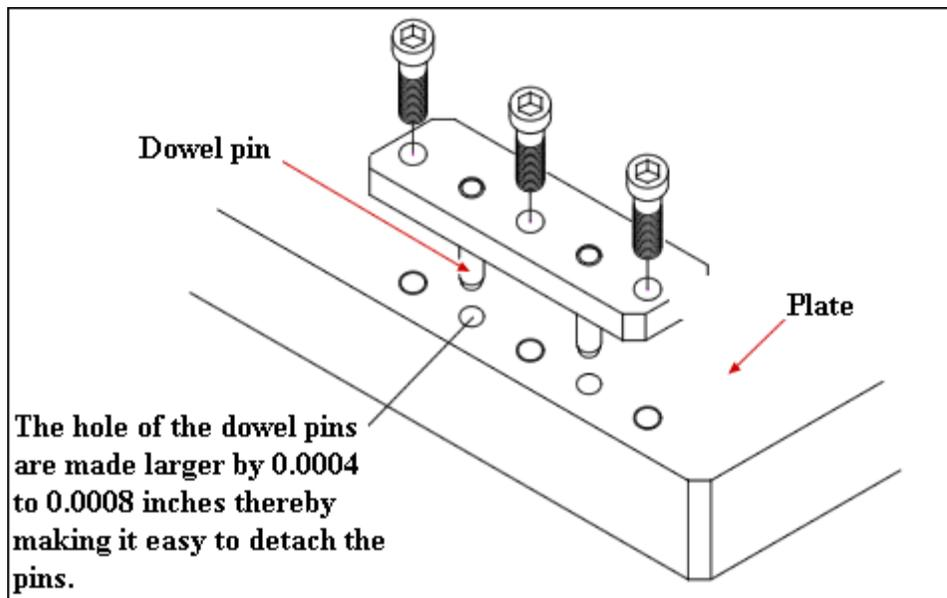

Figure 10. Proper use of dowel pins to position parts and resist shear forces.
**Fasteners have only ONE intended function: to clamp parts together.** Fasteners are not meant to position parts relative to one another; that is the function of dowel pins (figure 10), locating shoulders and piloting diameters. Additionally, fasteners are not meant to function as pivots, axles and fulcrums; pins appropriately serve this function. (Note: students often get away with using fasteners to locate parts on the designs in this course because of the light duty, short-term use of the project and convenience of doing so; in use these bolted connections will loosen, causing the assembly to fail. This problem is avoided by regularly checking for loose fasteners prior to testing.)